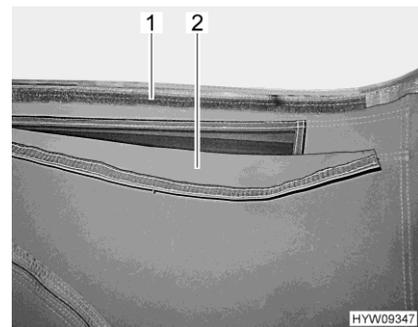

Fig. 86 Ventilation (open)
- Pull the fabric flap (Fig. 86,2) upwards and press down the Velcro strap (Fig. 86,1).